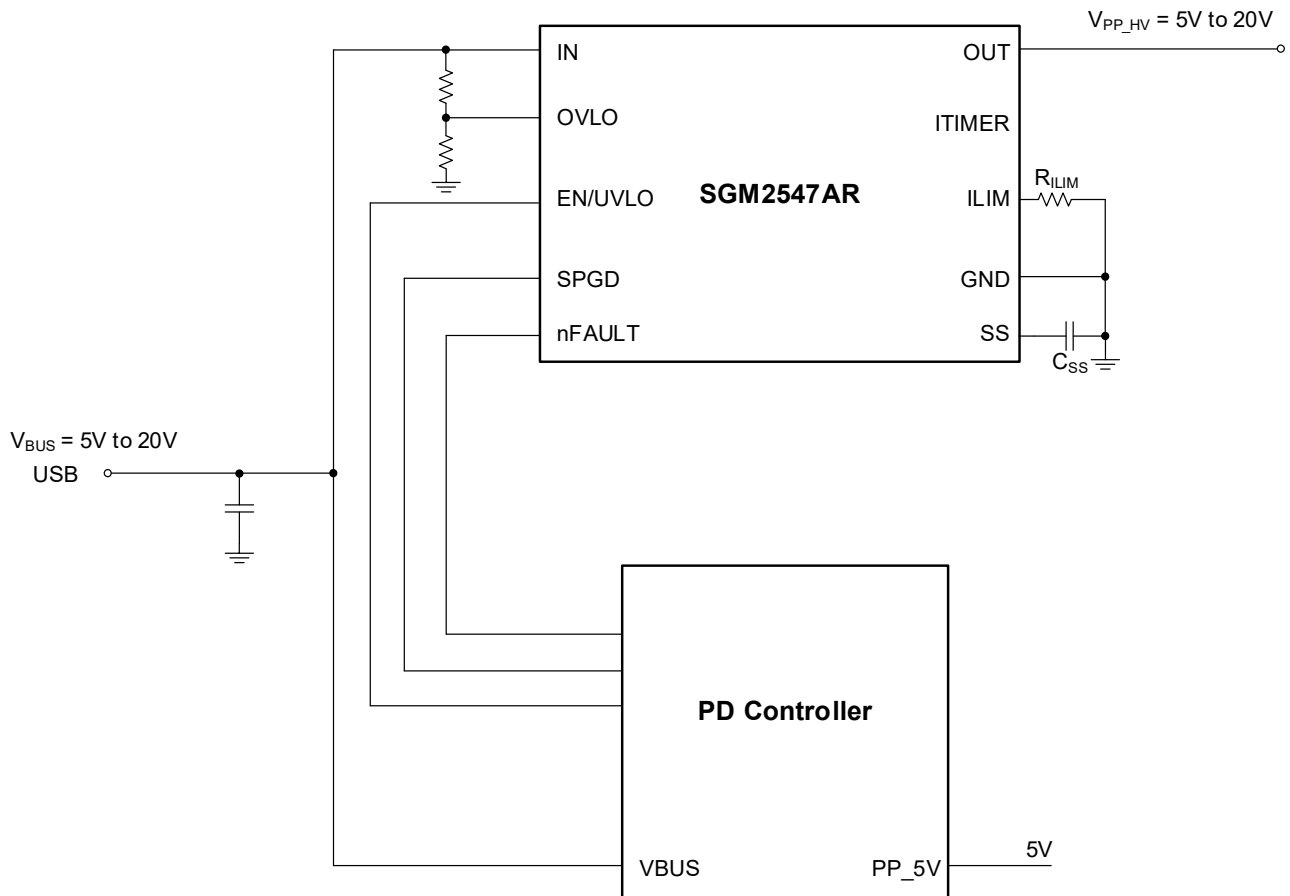

Figure 33. USB PD Port Protection
End devices such as PCs, notebooks, docking stations, and monitors support USB power delivery (PD) ports configurable as a DFP (Source), UFP (Sink), or DRP (Source/Sink). The SGM2547 can serve as a fully integrated power path management solution for USB PD ports, as illustrated in Figure 33.